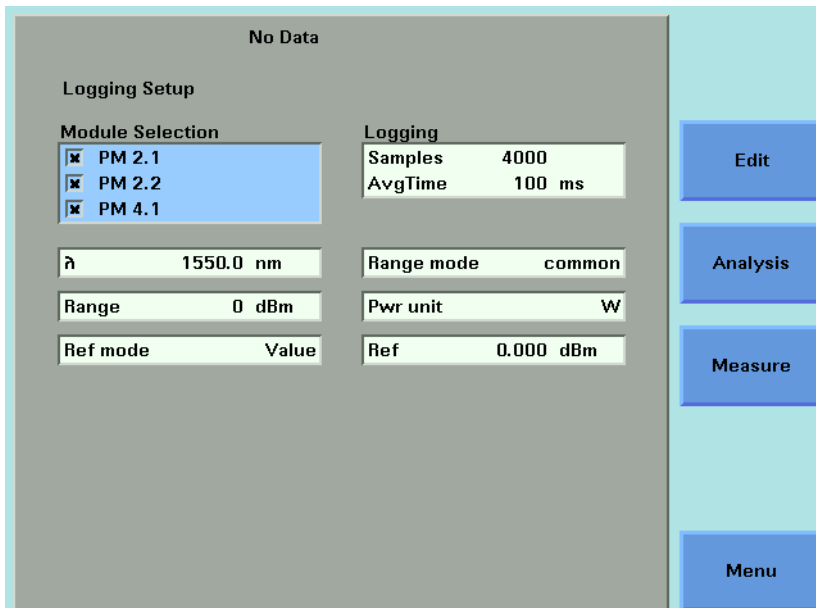
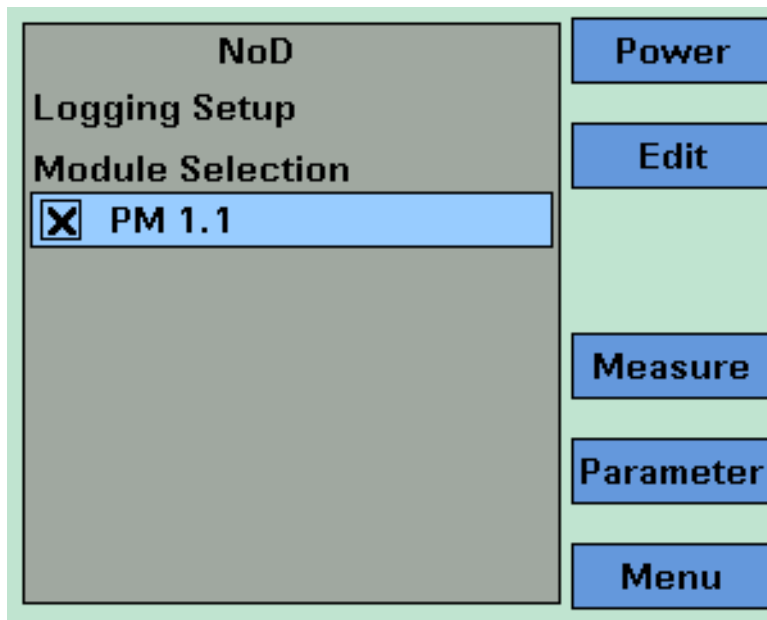

Figure 147 The Agilent 8164A/B Logging Setup Screen
Figure 148 The Agilent 8163B Logging Modules Setup Screen
- 2 Move to *<Logging>* and press *Enter*. The Agilent 8164A/B Logging Setup Screen, as shown in Figure 147 , or the Agilent 8163A/B Logging Modules Setup Screen, as shown in Figure 148 , appears depending on the mainframe instrument you are using.
If you are using the Agilent 8164A/B Lightwave Multimeter, you may set all Power meter parameters from the Logging Setup Screen, see Figure 147 .